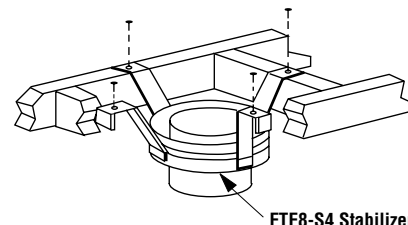

Figure 27
Install the Model FTF10-S4 stabilizer by fitting inner section down into respective section of proceeding flue pipe and locking outer stabilizer section into place over the outer chimney pipe. Position for proper clearance through framed opening and nail straps securely (under tension in "shear") into place on framing. Use 8d nails. Attach successive lengths of chimney pipe directly to stabilizer using same techniques as described in Step 4 (**Figure 27**).
Step 1. Use Offset Chart to determine amount of horizontal offset (A) and height (B) for various chimney section assemblies.
Step 3. Use Elevation Chart as job estimator only. Add necessary firestop spacers and stabilizers as required. Firestop spacers must be used as shown in **Figures 21 and 22** and stabilizers as shown in **Figure 27**.